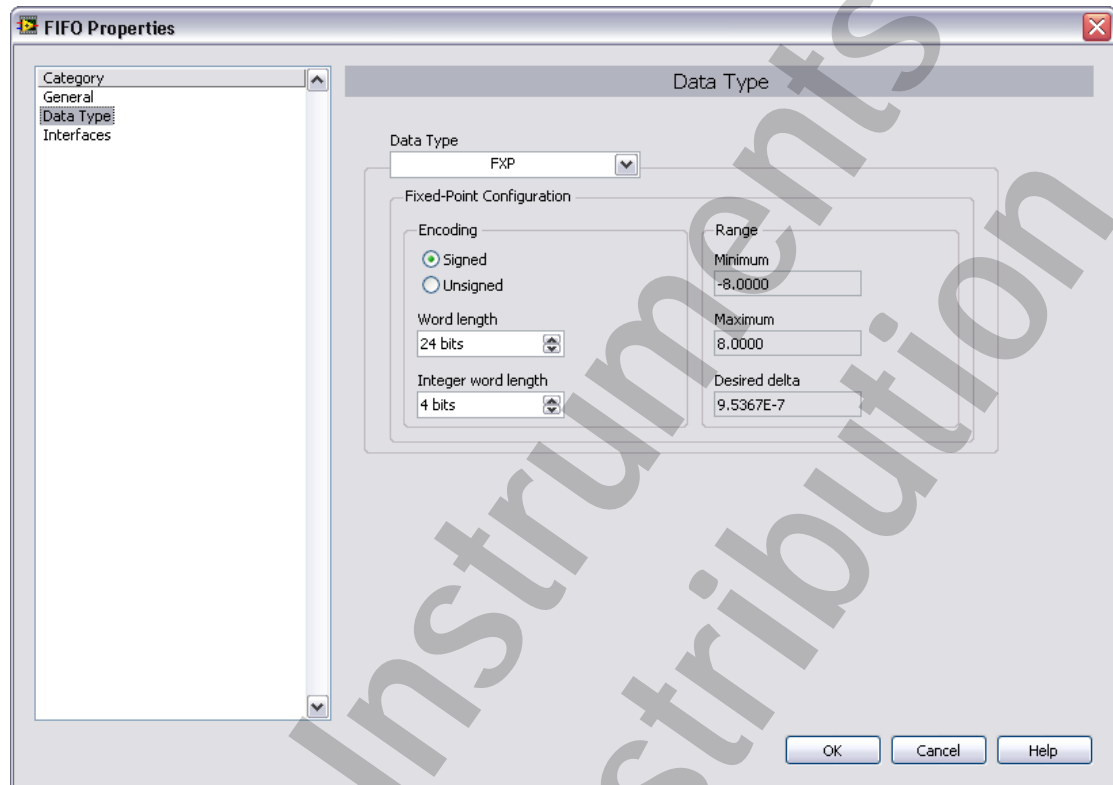

Figure 6-2. Y Accel FIFO Properties – Data Type Category
- ❑ In the FPGA FIFO Properties dialog box, select **Data Types** from the Category list and configure the FIFO as shown in Figure 6-2.